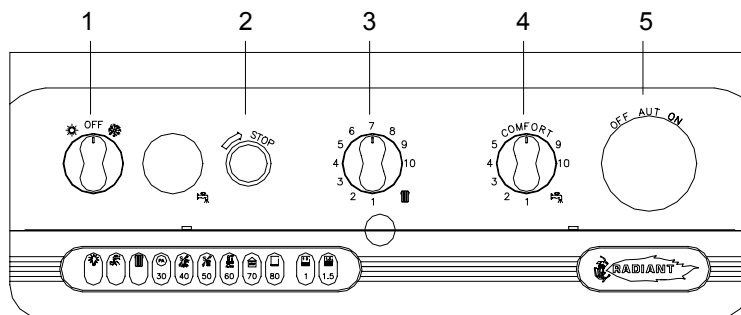

Fig. 1
- ⇒ **The anti-freeze system will come into operation only if the boiler is in the winter (❄) or summer (☀) position (with selector switch 1 in fig. 1 turned to the summer or winter position) and the gas supply turned on. The manufacturer can accept no responsibility for damage to the boiler caused by lack of observation of these requirements.**
LEGEND (see fig. 1)
It may be necessary to repeat the procedure a few times to purge air from the pipes. To repeat the ignition procedure press release button 2 (see fig. 1) and then try the ignition procedure once again. If the boiler does not start, press the reset button (see fig. 1 pag. 1). **IMPORTANT** should the boiler fail to ignite wait 3 minutes before pressing button again.
- turn selector switch 1 to the OFF position (see fig. 1 pag. I).;
Summer-winter use (see fig. 1 pag. I).
The heating temperature is regulated by turning knob 3 (see fig. 1 pag. I).
The hot water temperature is regulated by turning knob 4 (see fig. 1 pag. I).
If boiler locks-out (fig. 1 page I, indicator no. 2 ON) proceed as follows:
- press red reset button (2) (fig.1 page I)